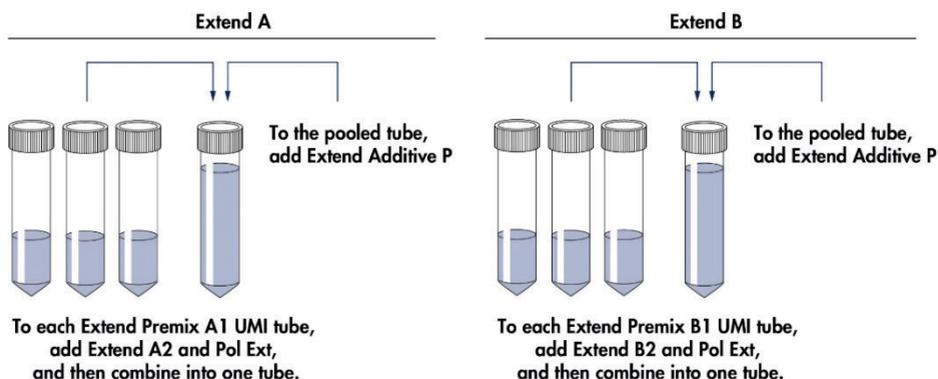

Figure 5. Extend buffer preparation for 3 flow cell run.
- To each of the three Extend Premix A1 UMI tube, add 162 μ l Extend A2 and 162 μ l Pol Extend (Figure 5). Gently mix the contents by inverting the tubes 5 times. Combine the contents of the 3 tubes into one tube. Add 45 μ l Extend Additive P, and mix by inverting the tube 10 times.
- To each of the three Extend Premix B1 UMI tubes, add 163 μ l Extend B2 and 162 μ l Pol Extend (Figure 5). Gently mix the contents by inverting the tubes 5 times. Combine the contents of the 3 tubes into one tube. Add 45 μ l Extend Additive P, and mix by inverting the tubes 10 times.